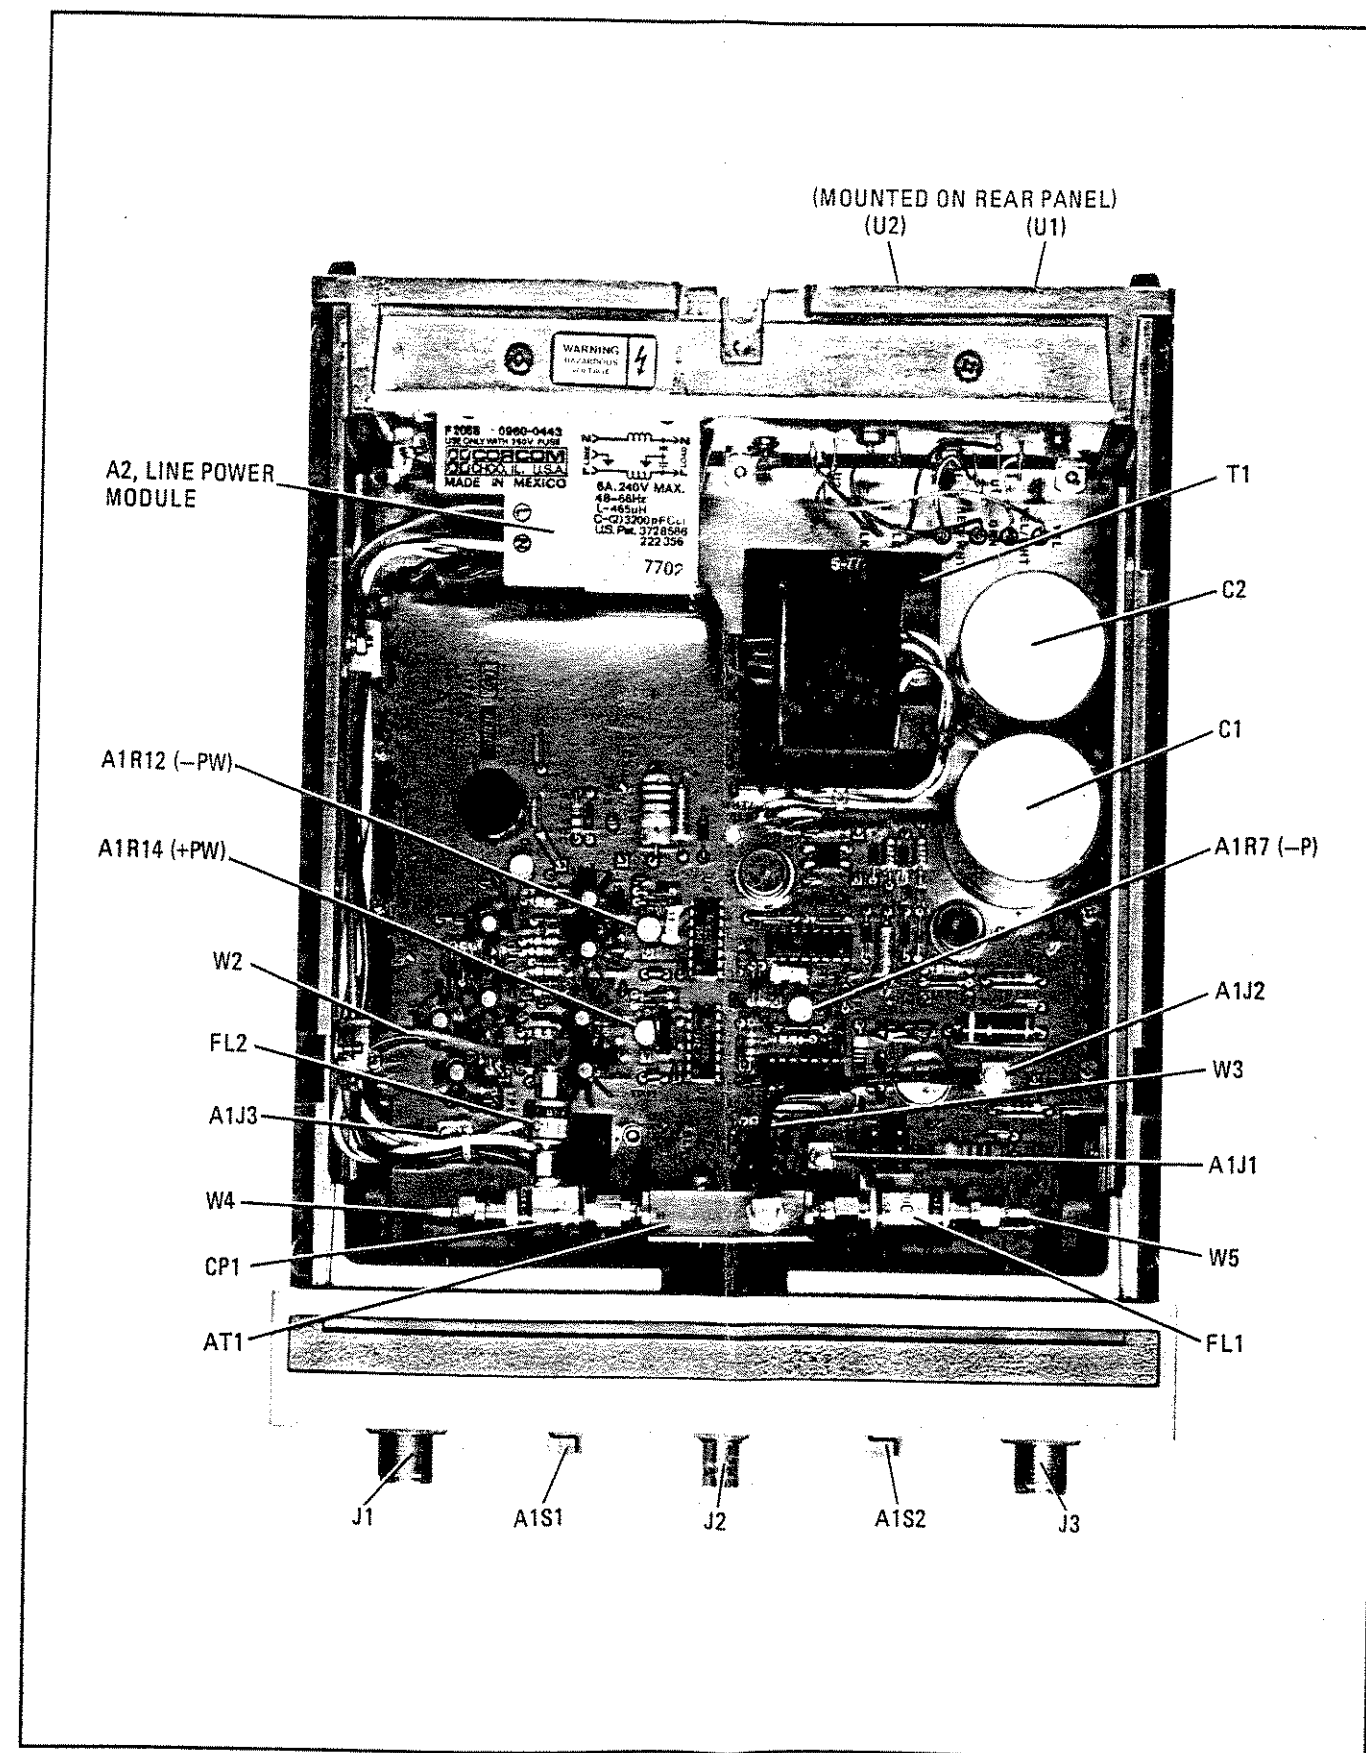

Figure 22. Top Internal View
76. Repair. In some instances, repair consists of merely making the required adjustments to bring the instrument up to specification levels. In other cases, repair requires the replacement of malfunctioning component with a known good component. Assembly and chassis component locations are shown in Figure 22. Parts locations for PC board A1 are shown in Figures 18 and 20. To gain access to the chassis-mounted components and the PC board remove the top (or bottom) cover by loosening the single screw at the rear of the cover.